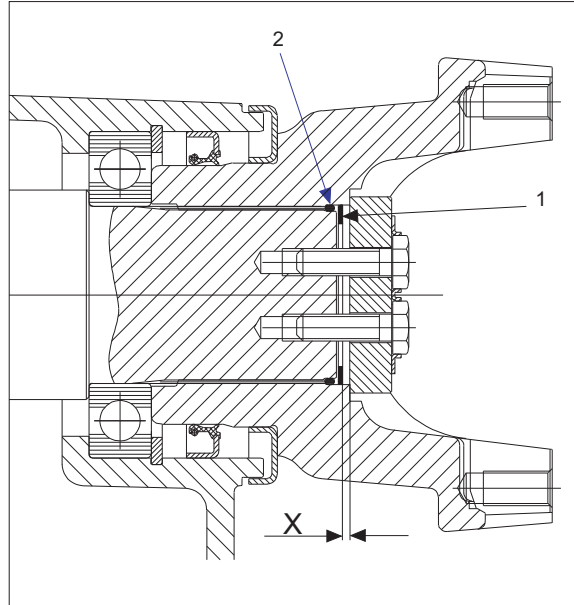

Figure 289
(figure 289~292) :
- (3) Place the O-ring (arrow) into the space between output flange and shaft (see also figure 289) and put on the shim.